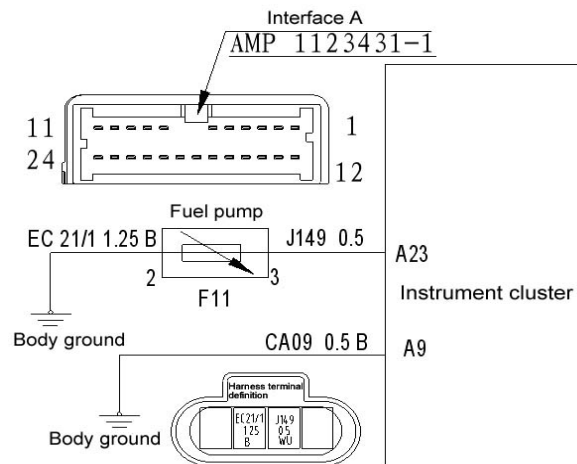

Fig. 4-23
(2) Check the circuit as shown in Fig. 4-23.